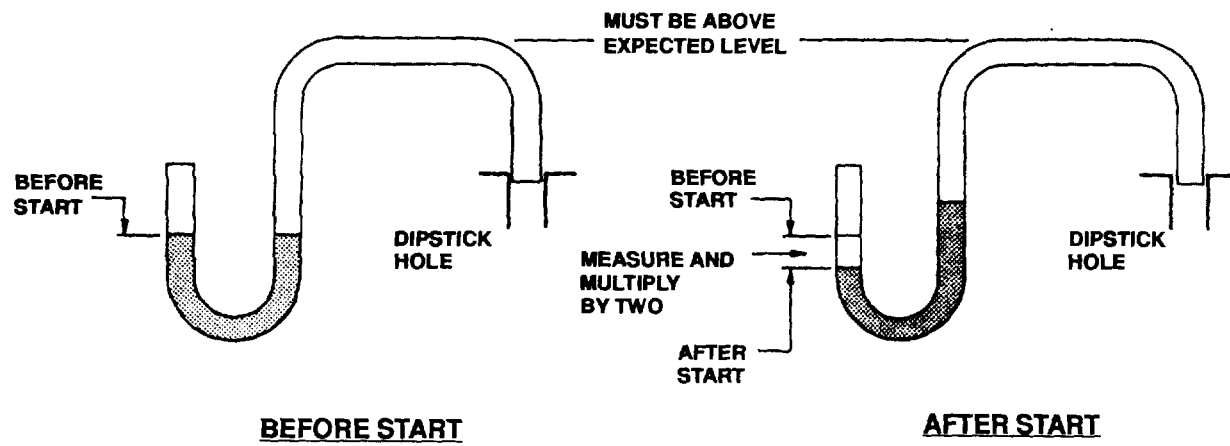

FIGURE 3-1. Locally Manufactured Water Manometer
- b. If water manometer is available, connect one end of a 0.374 in. (9.5 mm) OD plastic tube to a water manometer. Insert other end of tube into dipstick hole. Refer to FIGURE 3-1.